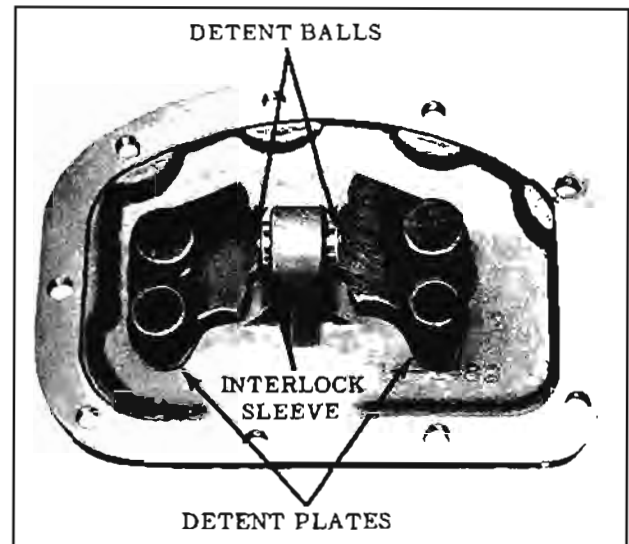

Fig. 11-256 Correct Positioning of Detent Plates
3. Check the detent plates in the side cover to be sure they are in the neutral position (detent balls in center notches). (Fig. 11-256)